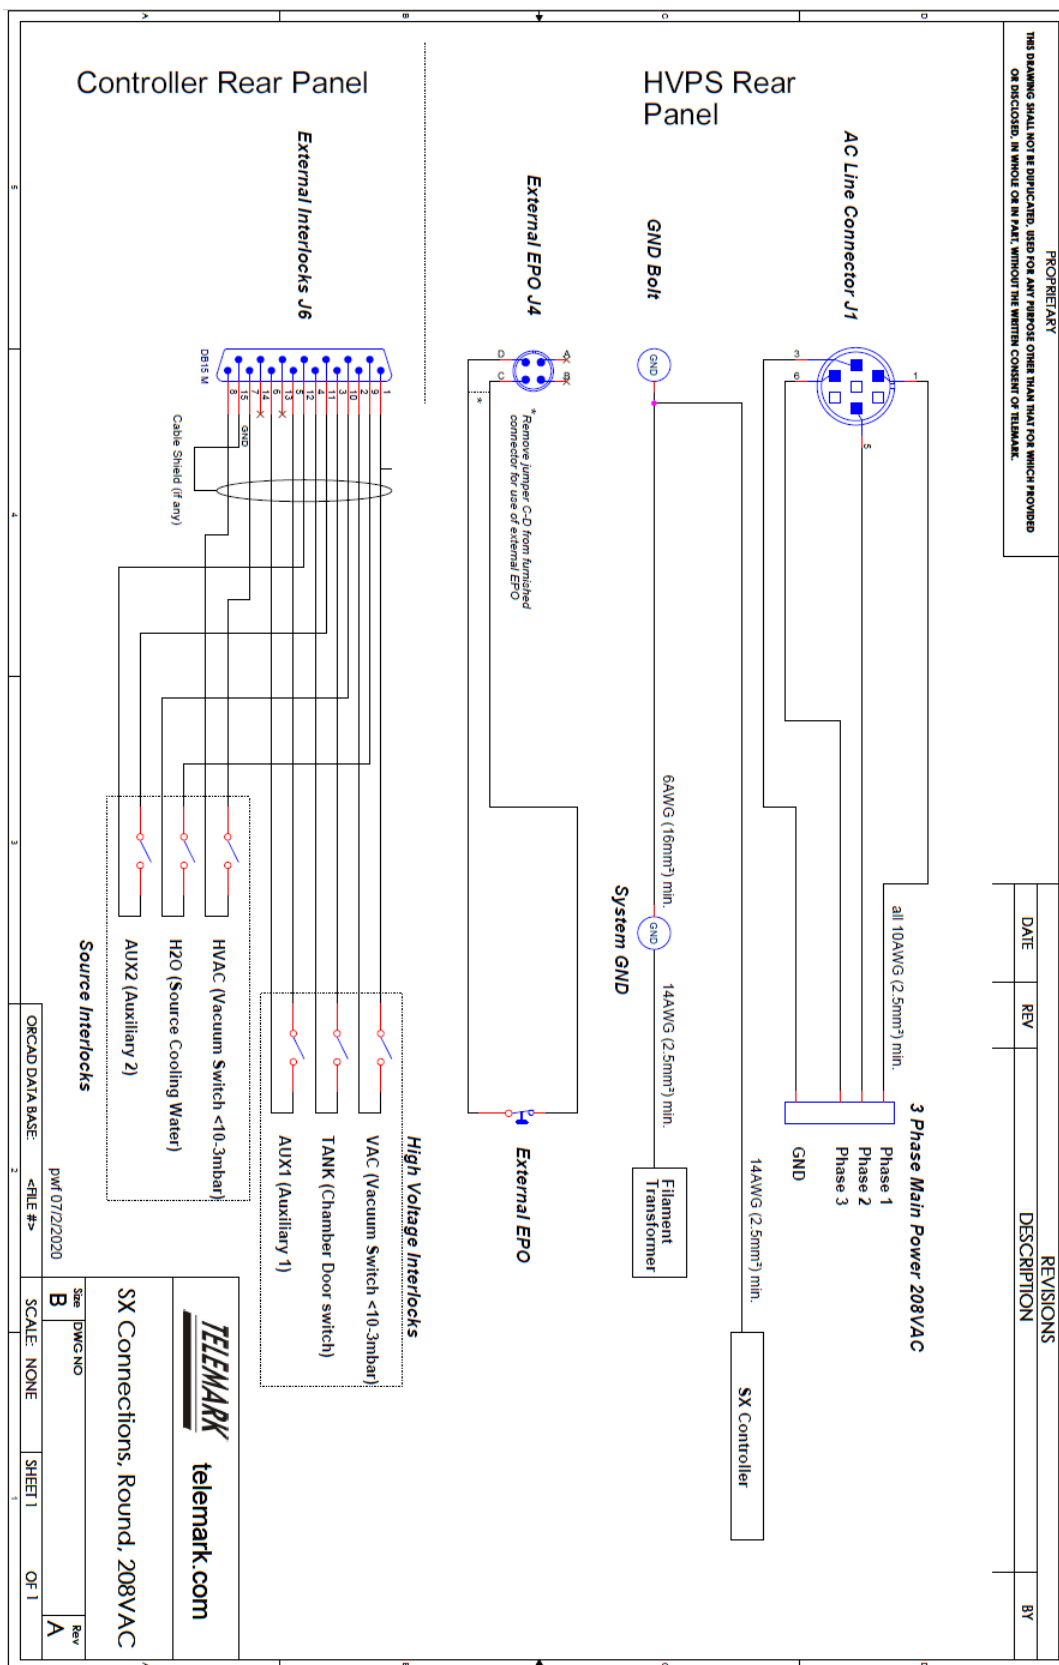

Figure 9-1, Connections SX series 208VAC Round Version
- Figure 9-1 Connections SX-4/6/8/10/12, Round Connector, 208VAC